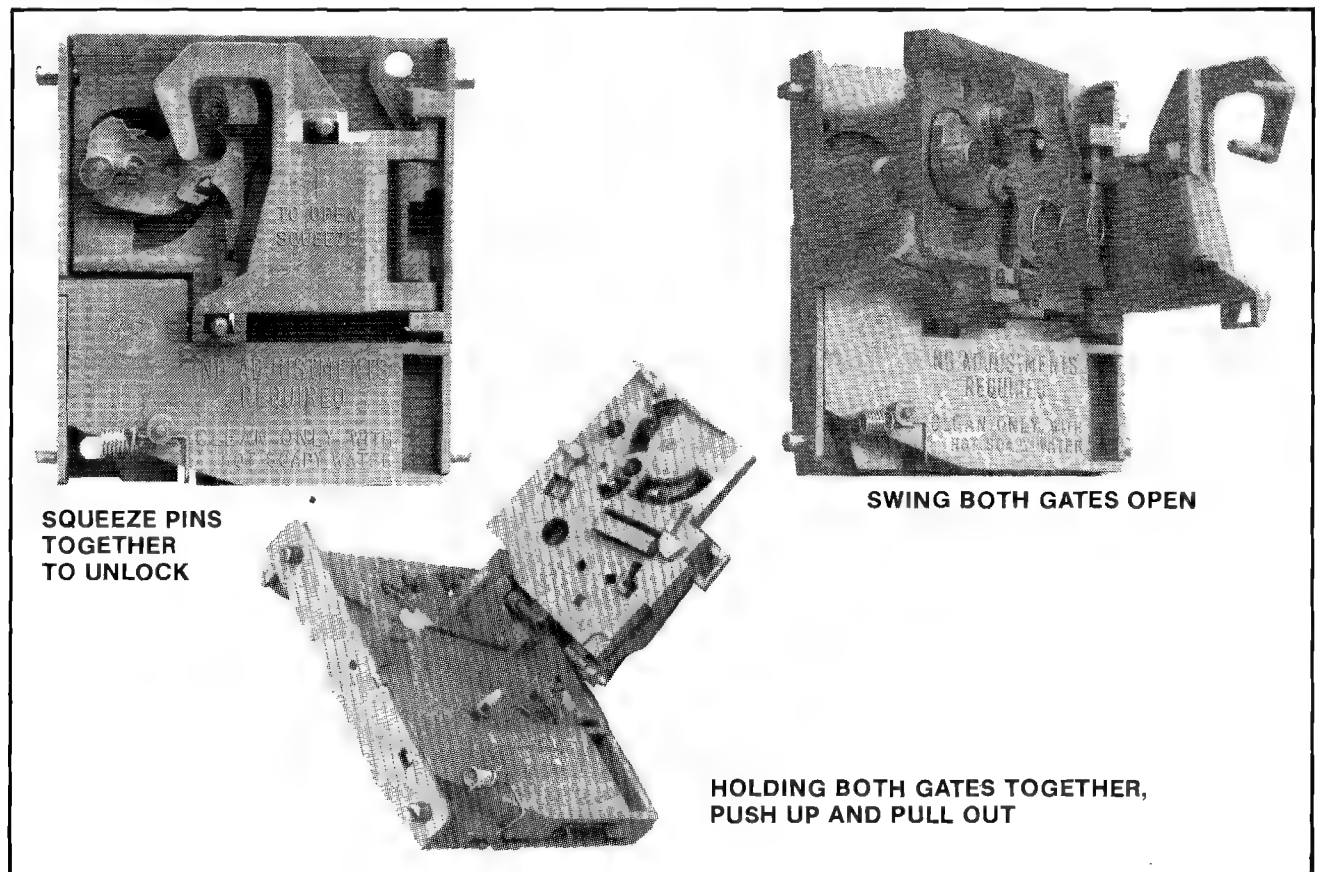

Figure 7-4 Opening the plastic coin acceptor
3. Remove the coin acceptor mechanism(s) as shown in Figure 7-4.
4. Squeeze the two pins indicated in Figure 7-4 together to open the mechanism and break it down into its three basic parts.